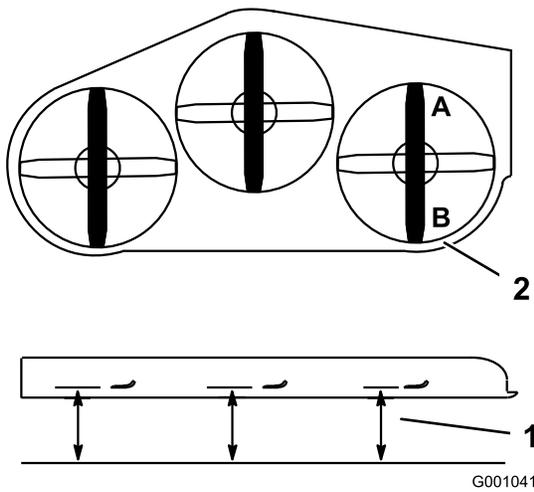

Figure 106
1. Position the **right** blade front-to-rear (Figure 106).
2. Measure the right blade at the **A** location, from a level surface to the cutting edge of the blade tip (Figure 106).
4. Measure the right blade at the **B** location, from a level surface to the cutting edge of the blade tip (Figure 106).
6. The mower blade should be 6 to 10 mm (1/4 to 3/8 inch) lower at position **A** than at position **B** (Figure 106). If it is not correct, proceed to the following steps.